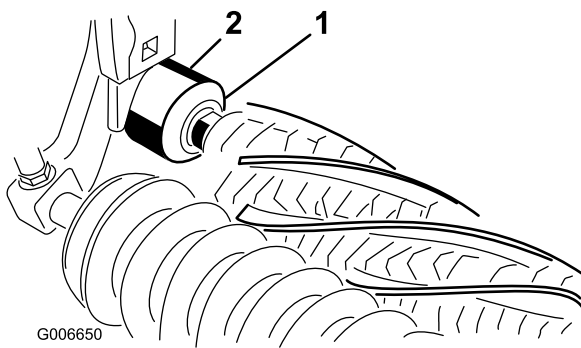

Figure 12
24. Make sure that the seal lip on each excluder seal is in light contact with each bearing housing (Figure 12).